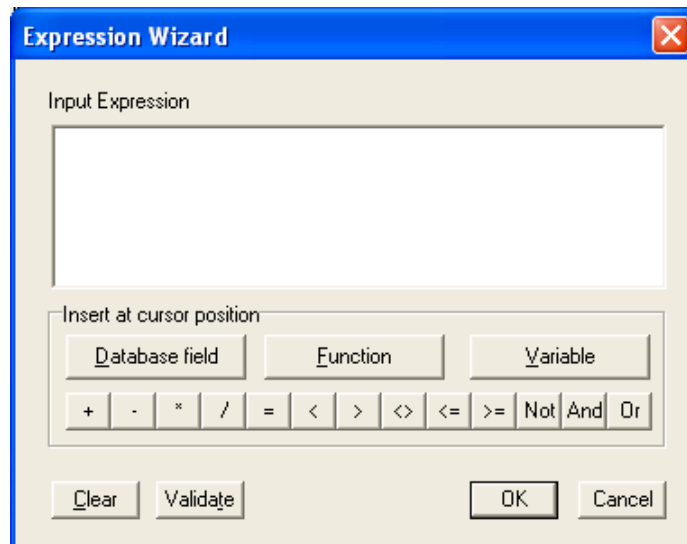

Figure 28 - Expression Wizard
8. The **Expression Wizard** (Figure 28) is displayed.